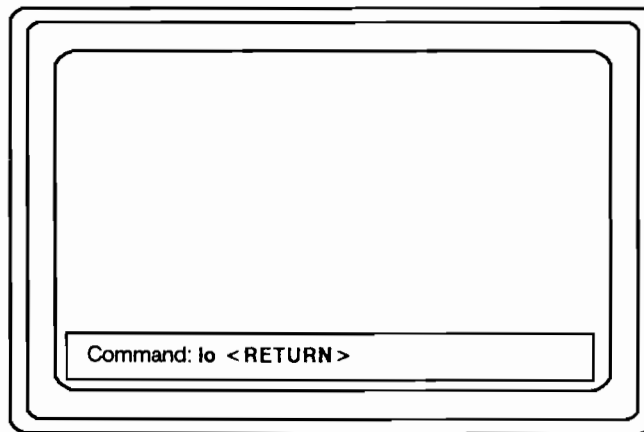

Figure 4-15. Logging Out
To log out, press **<CMD>** and type **lo** as shown in Figure 4-15.
1. Log out of the system as shown in Figure 4-15.